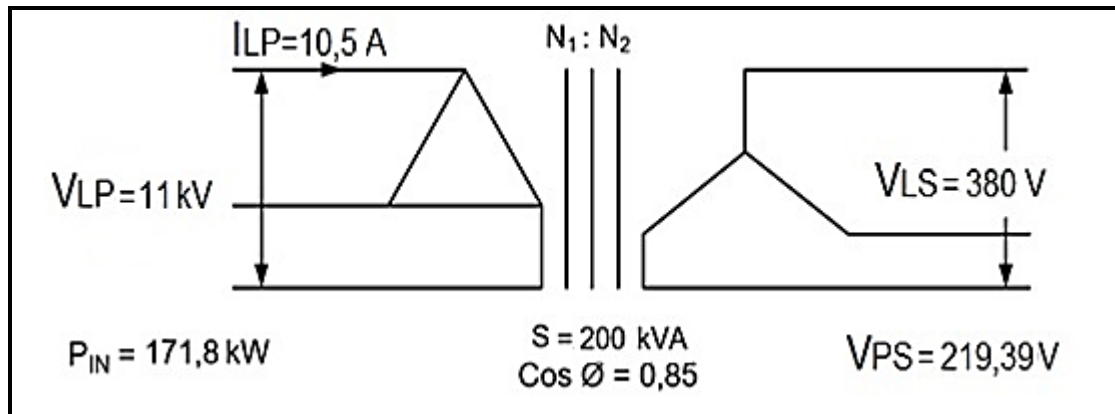

FIGURE 5.8: TRANSFORMER CONNECTION
- 5.8 Refer to the circuit diagram in FIGURE 5.8 below and answer the questions that follow.